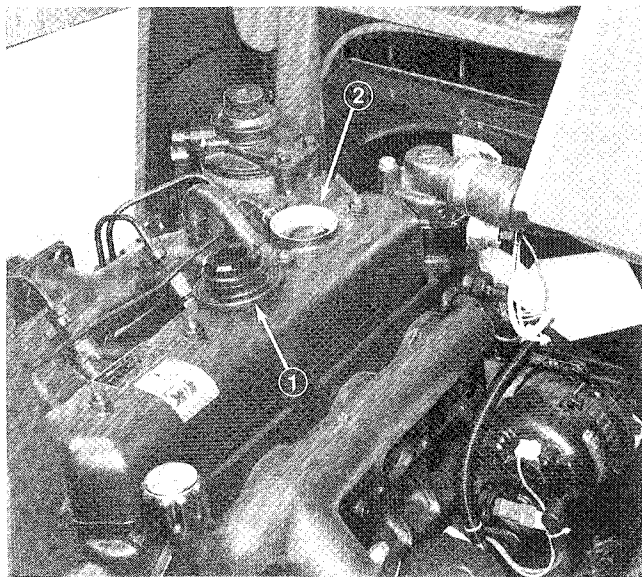

Figure 4
4. If oil is below FULL mark, remove fill cap (Fig. 4) and add SAE 10W-30 oil until level reaches FULL mark. DO NOT OVERFILL. Crankcase capacity is 6.9 qt. (6.5 L) with filter.